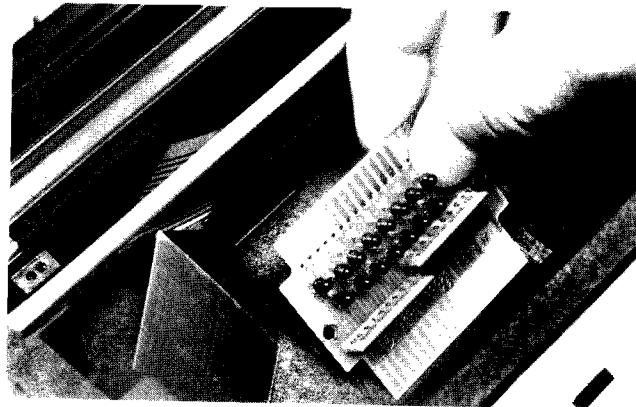

Figure 4-4. Installing Head Load Assembly
4. Plug the long connector side of the Head Load Assembly into the TPM PCA connector (see Figure 4-4). Ensure that the Head Load Assembly is seated fully into the TPM mainframe.